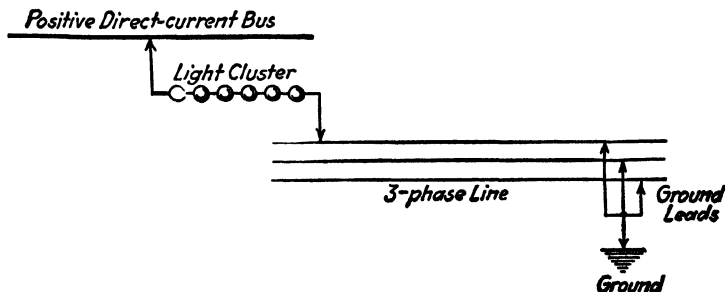

FIG. 20-12. Connections for open test.
4. Connect the other terminal of the cluster to each conductor of the line in turn (see Fig. 20-12). If a test shows that each conductor is